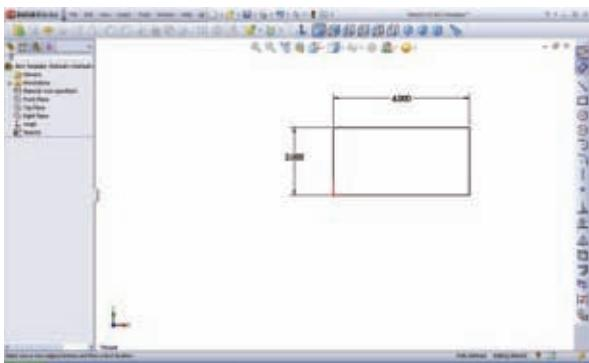

Figure 6-9 Dimension the rectangle to 4" wide x 2" high.
9. Dimension and extrude the rectangle that represents the adapter plate. (see Figs. 6-9, 6-10, and 6-11)